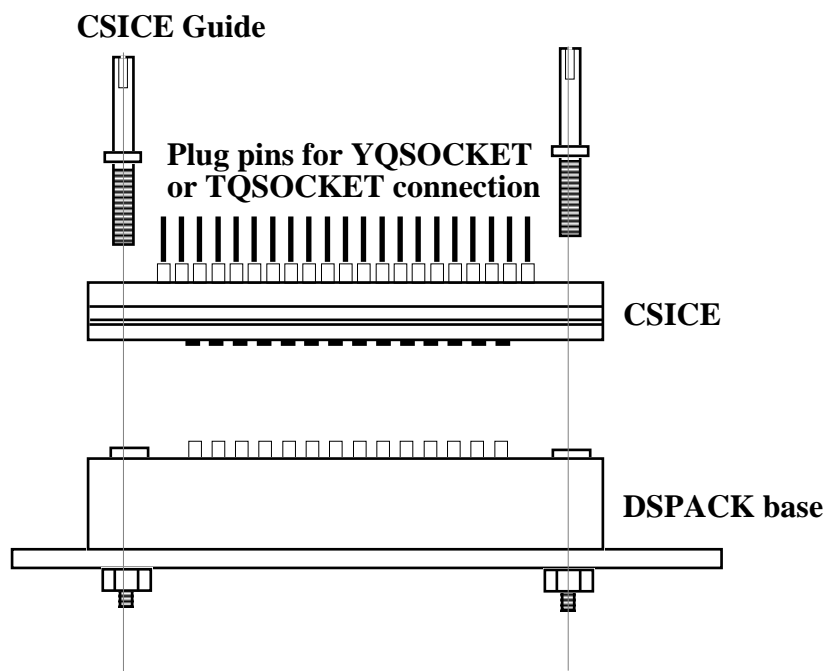

Fig 4. Explosion view of DSPACK and CSICE
4. As illustrated in Fig 4 , cable can be attached to DSPACK with screws that can be either M1.6 or 2.0 in size. The holes at each corner of DSPACK base are for this purpose. The screws should be tighten with the provided driver. When a cable is removed from DSPACK base, hold the adapter base to protect the base from unscrewing torque.
1. CSICE is a conversion adapter; It converts BGA foot pattern to QFP socket pin layout. This allows existing NQ/TQPACK tools to be connected to DSPACK base using CSICE as illustrated Fig 4 .